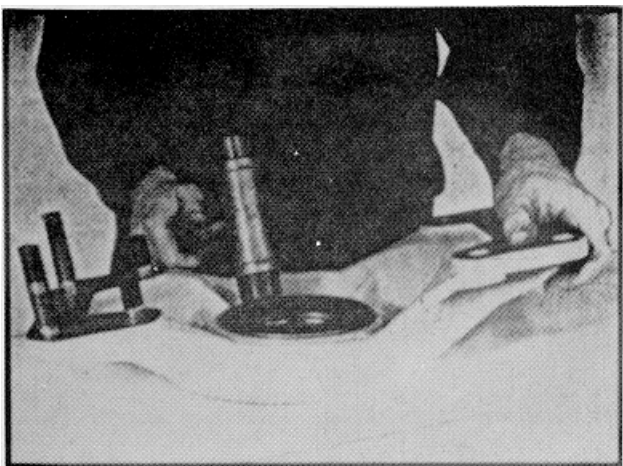

Fig. 36
2. Coat the outside circumference of the outerdrive yoke seal with liquid sealant. Press the seal into place in the spindle yoke. (See fig. 36).